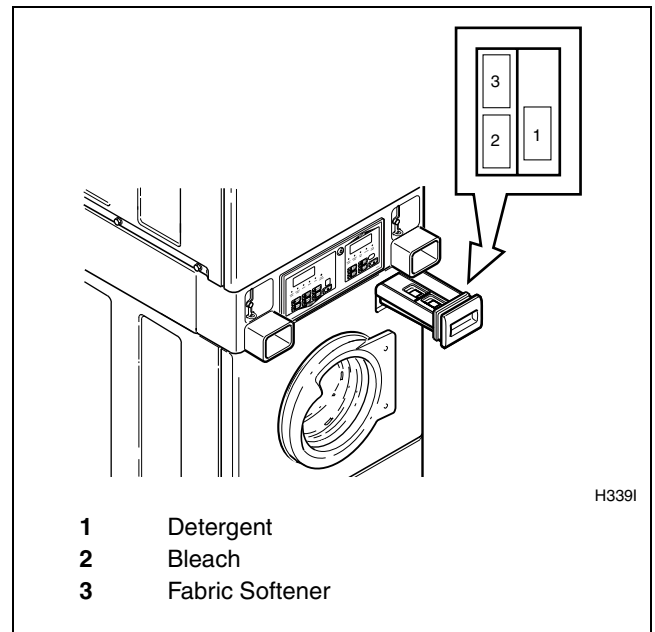

Figure 52
Open dispenser drawer. Measure and add low sudsing detergent (1), bleach (2) and fabric softener (3) to the dispenser drawer (refer to *Figure 52*). Close dispenser drawer.